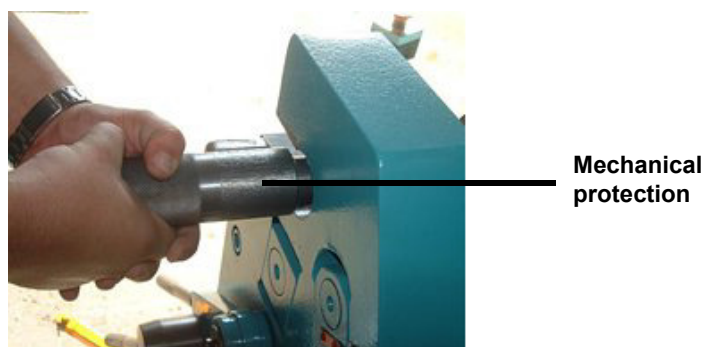

Fig. 20: Release lock of top roller
Step 3: Release the upper roller lock by pulling the handle as far as possible to allow the roller to move in the bearing (Fig. 20).